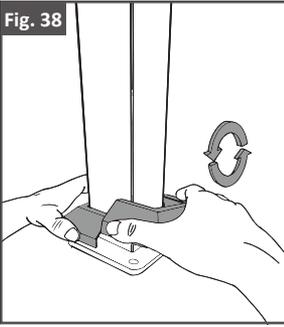

Fig. 39
4. Make sure one of the locking pins on the 2nd cover engage with the proper slot on the 1st cover piece. As shown in Fig. 39.